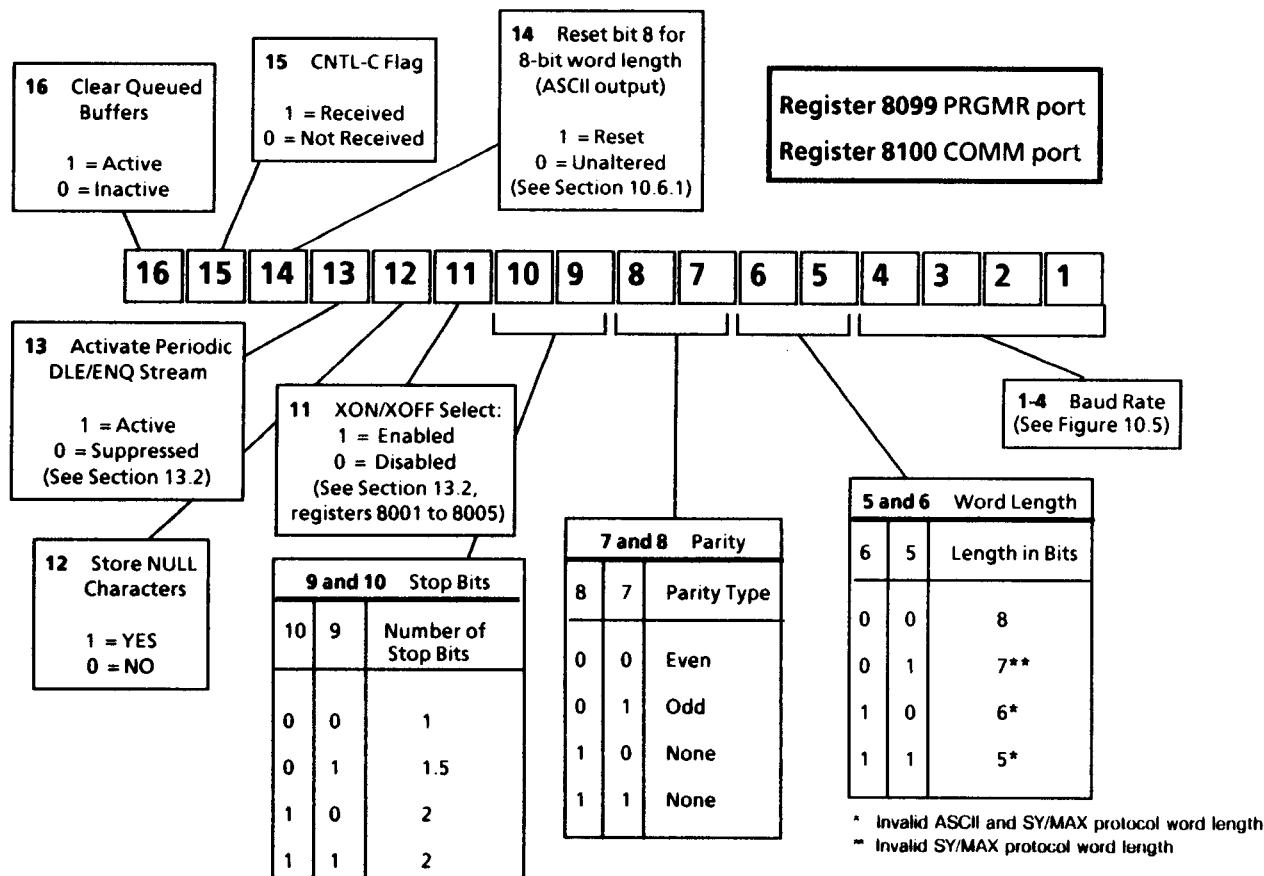

Figure 10.3 PGRMR and COMM Set-up Registers
Y is the CHANNEL that receives the input, being either 1 (PRGMR port) or 2 (COMM port). The serial word structure for channel 1 is defined in register 8099. The structure for channel 2 is in register 8100. See Figure 10.3.
When configuring each of the PRGMR and COMM ports for ASCII input, registers 8099 (for PRGMR) and 8100 (for COMM) are used. Figure 10.3 illustrates what each of the bits in these two registers are used for and how to configure the port for the desired word structure.
(See Figure 10.3)
- Null (00) characters may either be disregarded or stored as valid characters (Rev. 2 or later only). See bit 12 in Figure 10.3 .
NOTE: If the receiving device does not automatically mask off bit 8 (typically indicated when half the characters are received correctly, the other half garbled), set bit 14 of register 8100 for port 2 (register 8099 for port 1) to 1 to cause the processor to perform the mask. Another alternative to match output default settings is to set up the receiving device for a 7-bit word with odd parity and 2 stop bits. Other settings may be accommodated by adjusting registers 8099 or 8100; refer to Figure 10.3.